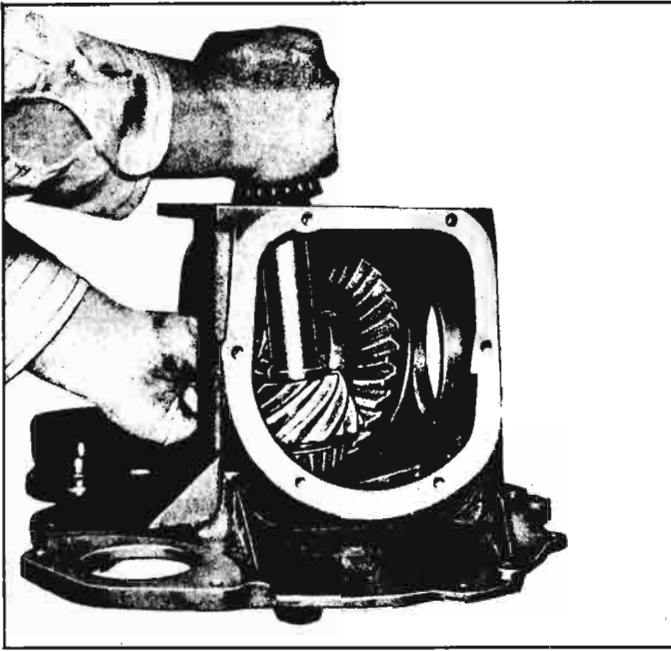

Fig. 6C-16—Removing Pinion From Carrier
7. Remove pinion drive gear with bearings attached by lifting upward and then removing through the cover hole (fig. 6C-16).
Refer to figure 6C-17.